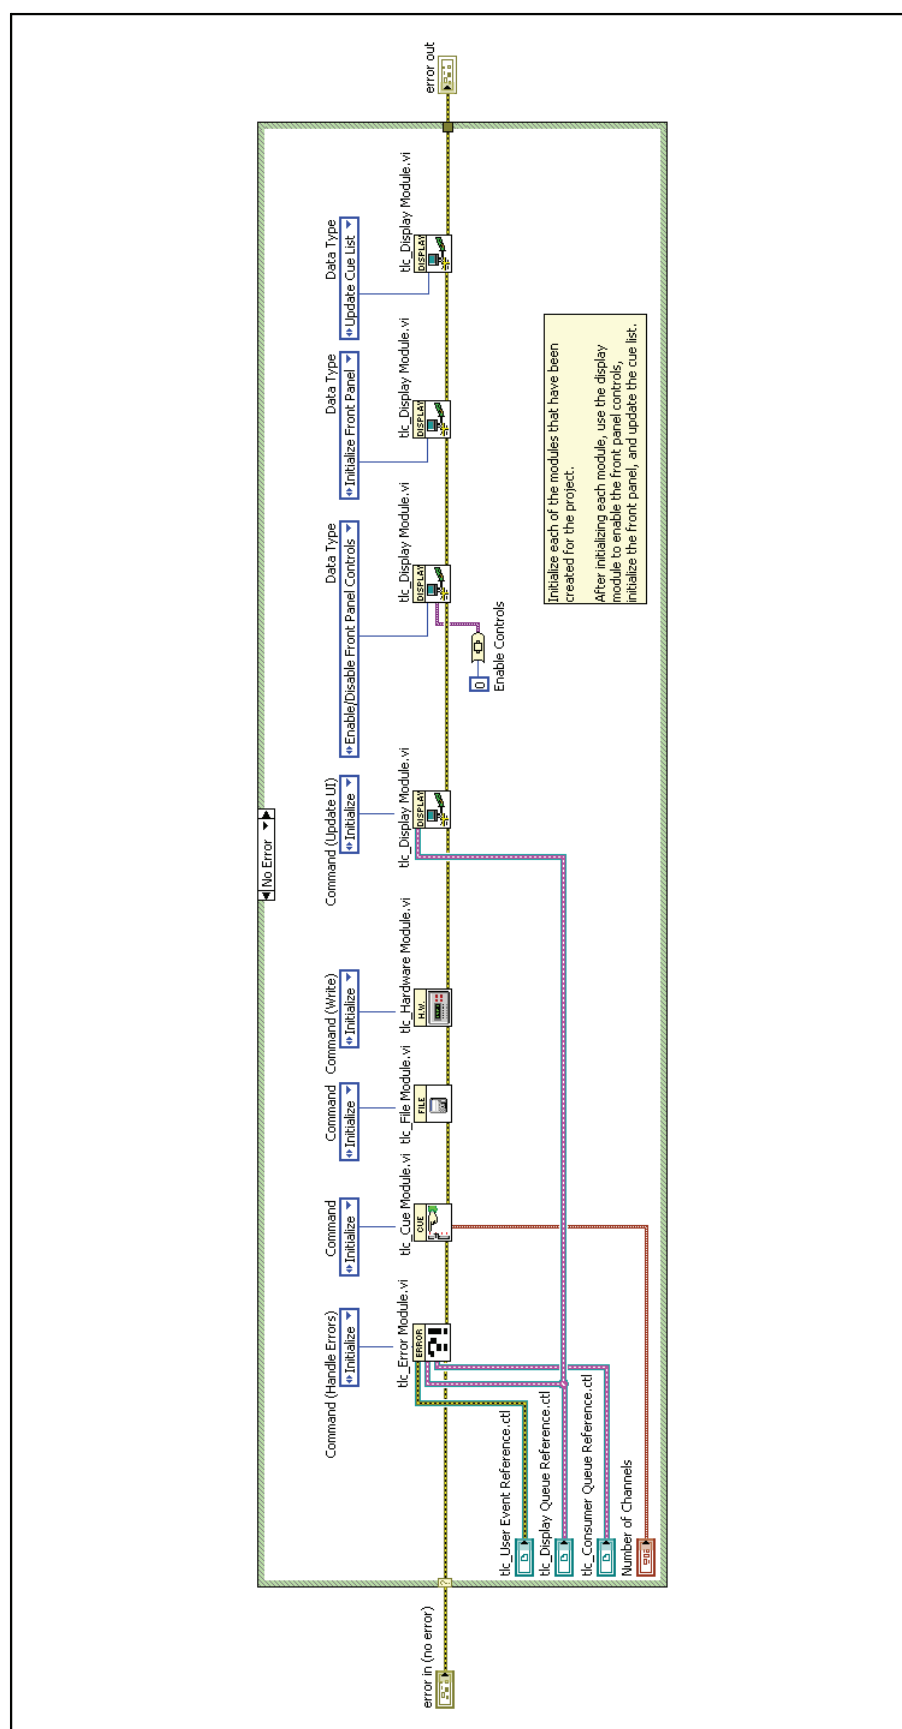

Figure 7-1. Initialize Function
3. Complete the block diagram as shown in Figure 7-1. This VI initializes the modules that you have already created. The block diagram already includes these modules. Use the following items to initialize the modules:
- ☐ Right-click the **Command** input of **tlc_Error** Module VI, select **Create»Constant** and set the constant to **Initialize**. Repeat for each of the following modules, as shown in Figure 7-1:
- ☐ Right-click the **Data Type** input of the second instance of the **tlc_Display** Module VI. Select **Create Constant** and set the value as shown in Figure 7-1. Repeat this step for the third and fourth instances of **tlc_Display** Module VI.